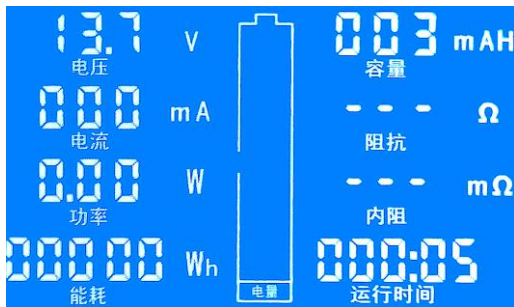
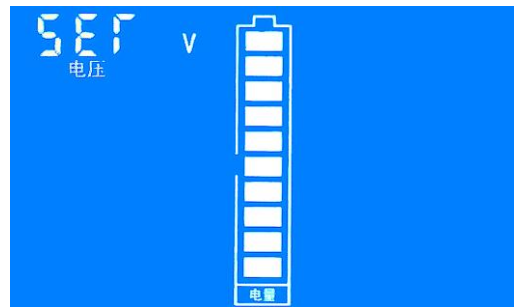
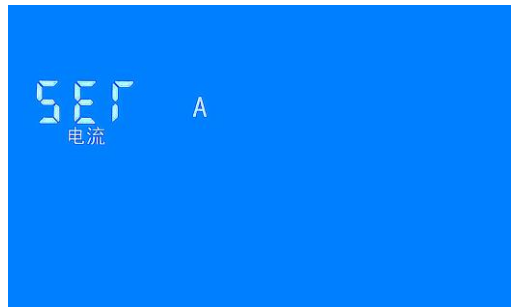

Figure 1: the normal display interface
Figure 2: the voltage setting interface
Figure 7 Current range setting interface
Step 1: In the normal display interface (like fig. 1), long press the button until the LCD screen displays the interface like fig. 2, then release the button.
Step 1: In the normal display interface, long press the button until the LCD shows the interface of Figure 2, then release the button, short press the button again switch to the interface to Figure 7, it indicates that this state is the current range setting state.
Step 1: In the normal display interface, long press the button until the LCD shows the interface of Figure 2, then release the button, short press the button again switch to the interface to Figure 9, it indicates that this state is the clearing energy setting state.
Step 1: In the normal display interface, long press the button until the LCD shows the interface of Figure 2, then release the button, short press the button again switch to the interface to Figure 10, it indicates that this state is the clearing capacity setting state.
Step 1: In the normal display interface, long press the button until the LCD shows the interface of Figure 2, then release the button, short press the button again switch to the interface to Figure 11, it indicates that this state is the clearing running time setting state.